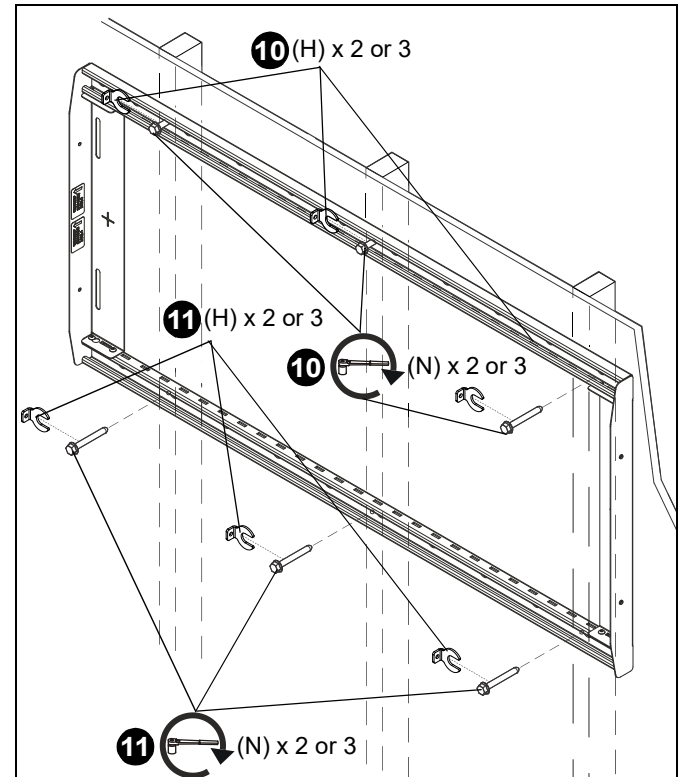

Figure 13
9. Place one slotted washer (H) over each flanged lag bolt. (See Figure 13)
10. Tighten lag bolts to secure rail assembly (C) to wall at upper mounting slots. If installing over three studs, install third 5/16 x 2-1/2" flanged lag bolt (N) into upper right mounting hole with 5/16" slotted washer (H). (See Figure 13)
11. Use two 5/16 x 2-1/2" flanged lag bolts (N) and two 5/16" slotted washers (H) to attach the mount to the wall through the lower mounting holes. (See Figure 13)